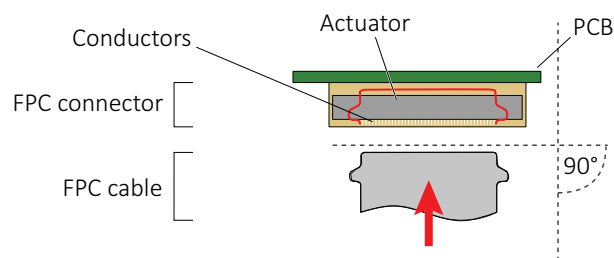
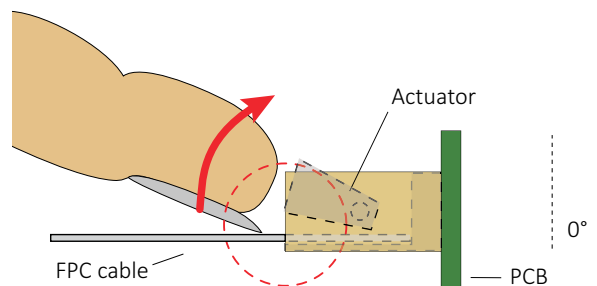

Figure 27: FPC cable and FPC connector
Figure 28: Engaging the FPC cable in the FPC connector
2. **Ensuring proper cable direction between host and camera**, take the FPC cable with conductors facing the FPC connector conductors (see Figure 27).
At a horizontal angle of 90° to the connector's rear (see Figure 27) and at a vertical angle of 90° to the PCB (see Figure 28), slowly insert the FPC cable into the actuator...
4. ...until the FPC cable touches the inside shell of the FPC connector (see Figure 27).
5. Holding the FPC cable in position, flip up the actuator until it engages in closed position (see Figure 28).